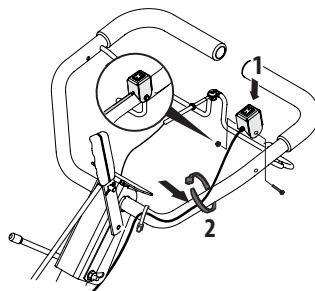

Figure 6
4. Mount the emergency stop control ON/OFF switch onto the left side of the handlebar with the #10-32 : 1.50 hex bolt and 10-32 flange lock nut. See 1 in Figure 6.
5. Secure the wire near the top of the handlebar with a cable tie on the left handlebar. See 2 in Figure 6.